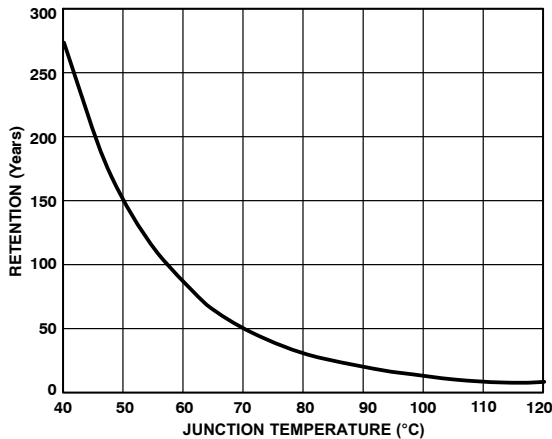

Figure 15. Typical EEPROM Memory Retention
- Retention lifetime equivalent at junction temperature (T_J) = $55^\circ C$ as per JEDEC Std. 22 method A117. Retention lifetime based on activation energy of 0.6 eV derates with junction temperature as shown in Figure 15.
Retention quantifies the ability of the memory to retain its programmed data over time. The EEPROM in the ADM1026 has been qualified in accordance with the formal JEDEC Retention Lifetime Specification (A117) at a specific junction temperature ($T_J = 55^\circ\text{C}$) to guarantee a minimum of 10 years retention time. As part of this qualification procedure, the EEPROM memory is cycled to its specified endurance limit described above before data retention is characterized. This means that the EEPROM memory is guaranteed to retain its data for its full specified retention lifetime every time the EEPROM is reprogrammed. Note that retention lifetime based on an activation energy of 0.6 V derates with T_J , as shown in Figure 15.